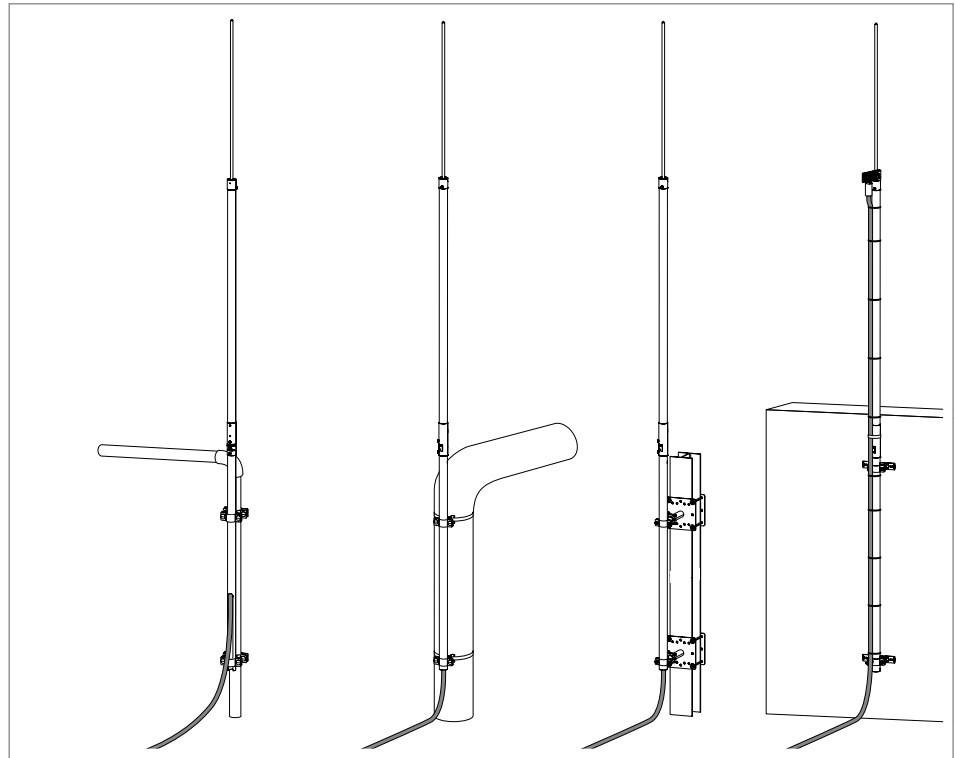

Fig. 49: Fastening air-termination rods to pipes, walls or T supports
1. Slacken the bottom screw as shown in Fig. 49.